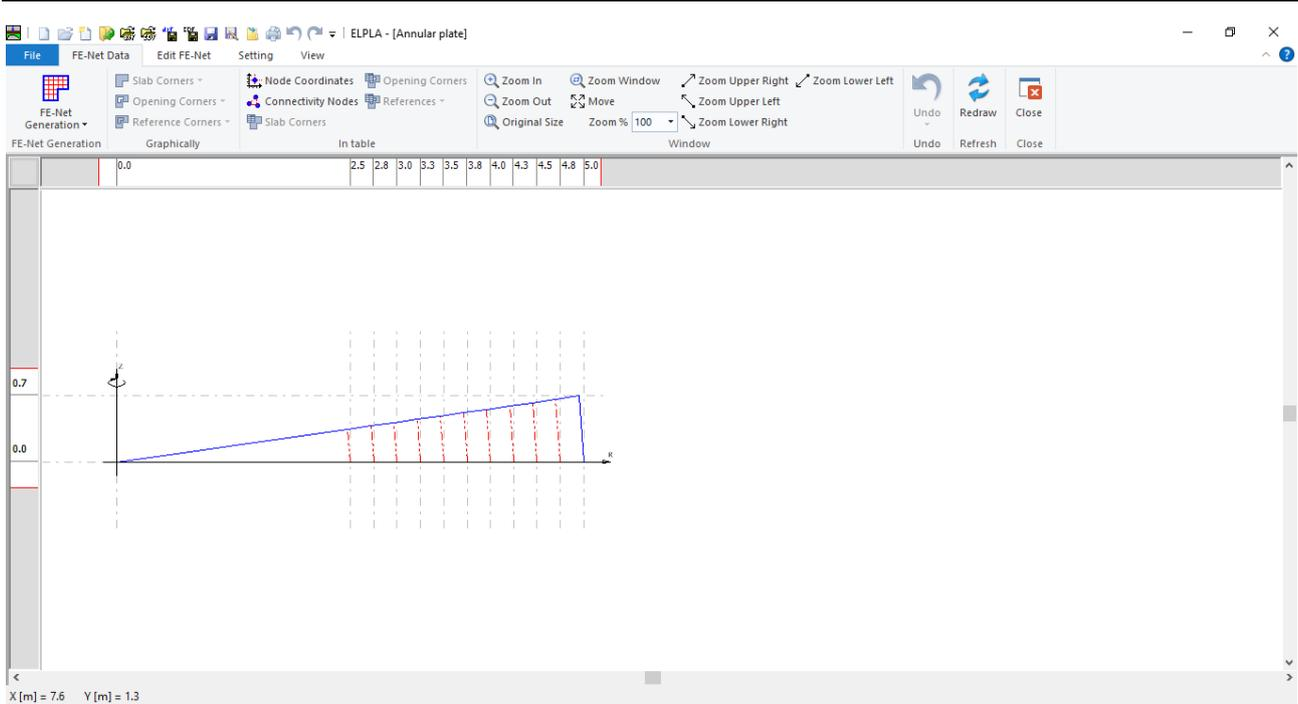

Figure 2.11 Generated FE-Net
ELPLA will generate a sector from the annular area with 11 circular elements. The following Window in Figure 2.11 appears with the generated net.
- Choose "Save" command from "File" menu in Figure 2.11 to save the data of the FE-Net
- Choose "Close" command from "File" menu in Figure 2.11 to close the "FE-Net" window and return to *ELPLA* main window